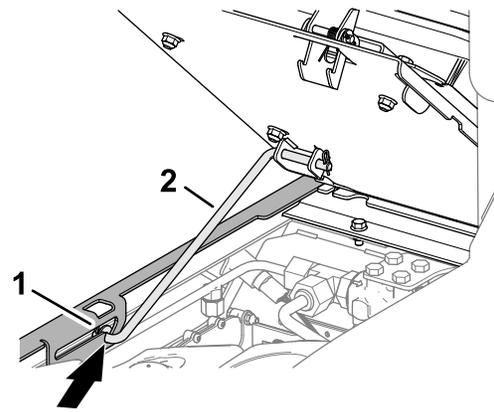

Figure 63
3. Ensure that the forward prop rod seats in the slot detent of the rod-guide plate (Figure 63).